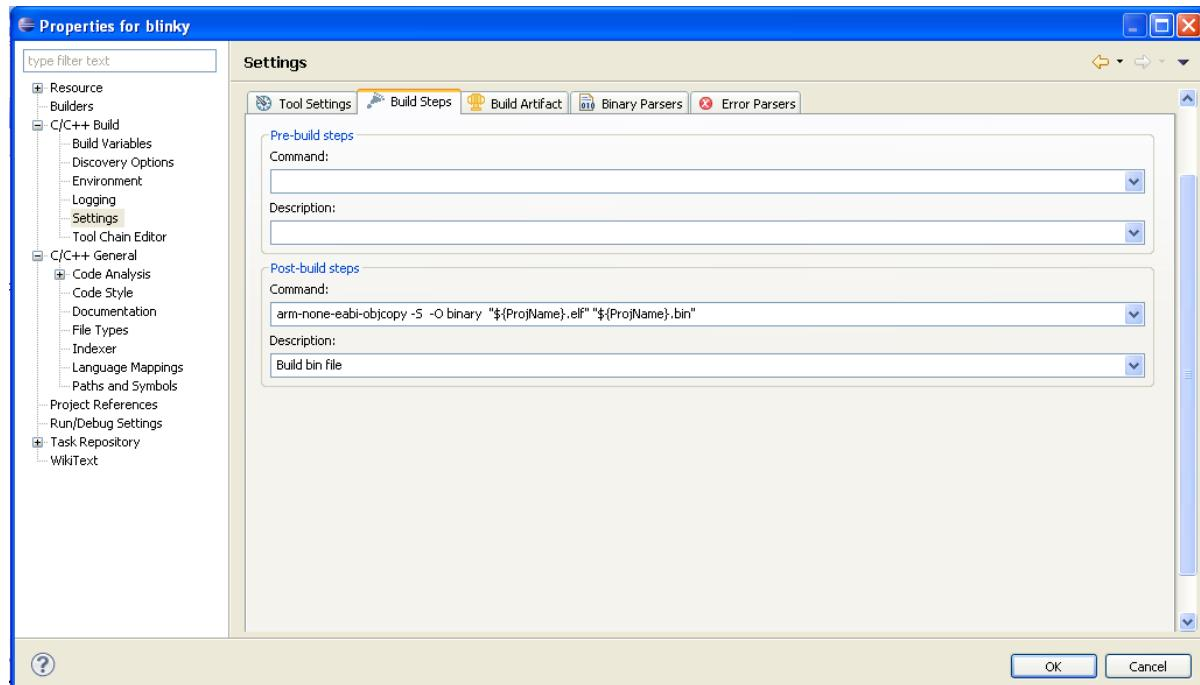

Figure 11.20 Post Build Steps
- Your windows should look similar to that shown in Figure 11.20. Press OK.